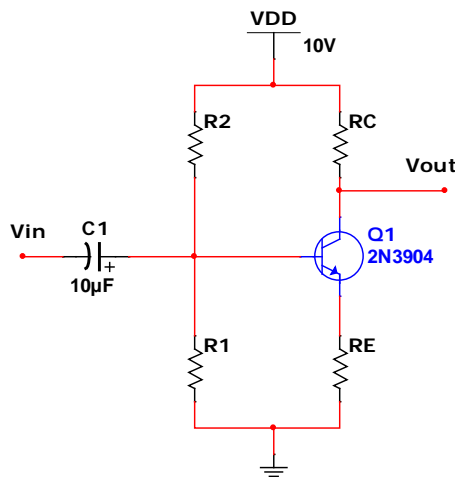
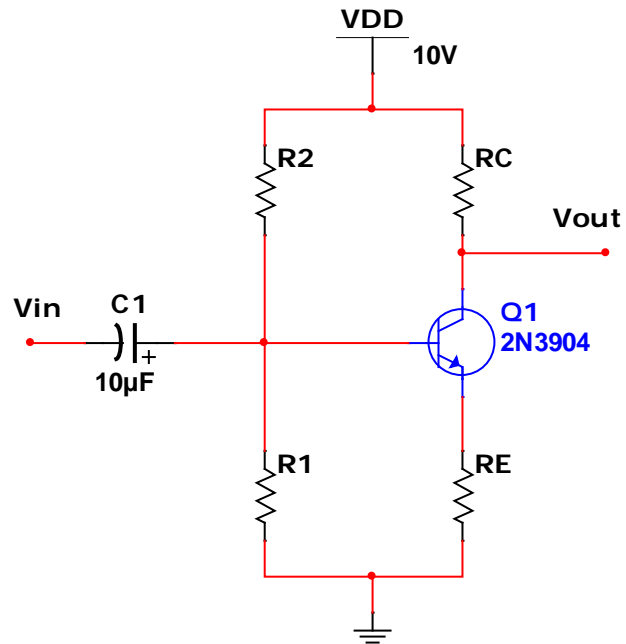

Figure 1. Common emitter.
Figure 8. Common emitter amplifier.
The objectives of this experiment are to observe the operating characteristics of the four basic single-stage BJT amplifier circuits shown here in figures 1 through 4: common emitter, common emitter with bypassed emitter resistor, common collector (also called an emitter follower), and common base.
In the common emitter configuration, shown in figure 8 (same as figure 1), the input is applied to the base through C1, a 10 μ F electrolytic capacitor, and the output is taken at the collector. As V_{in} changes, it has the effect of slightly wiggling V_B , causing a change in I_C .
1. Add capacitor $C_1 = 10 \mu\text{F}$ electrolytic capacitor as shown in figure 8 (same as figure 1).